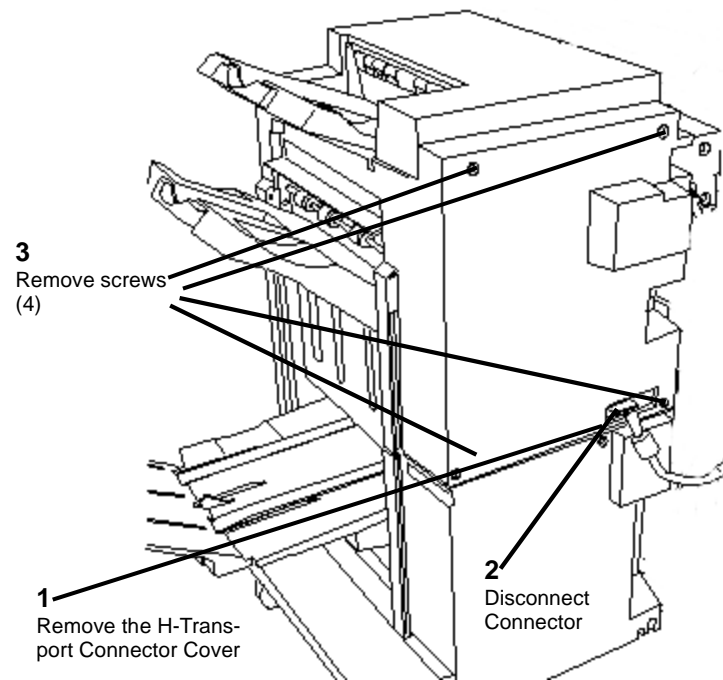

Figure 1 Removing the Rear Upper Cover
3. Remove the Rear Upper Cover (Figure 1).